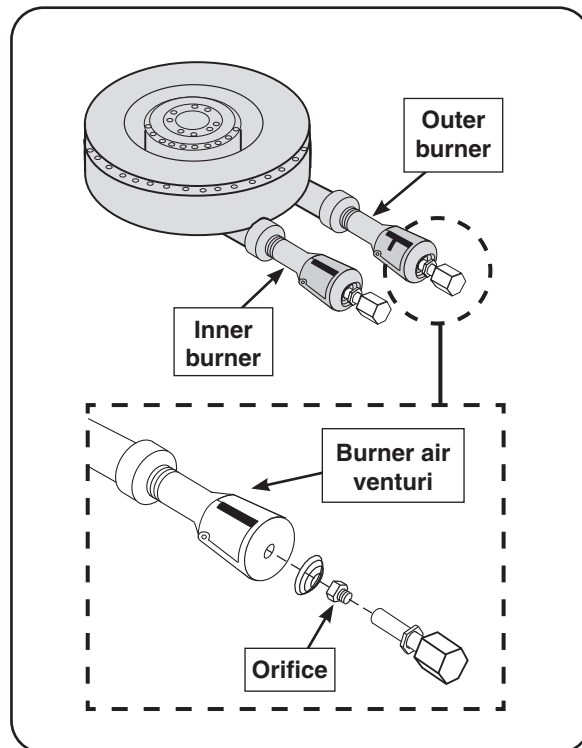

Fig. 34-1 Burner air shutter / orifice orientation
3. The orifice size is stamped on each orifice face (see Fig. 34-1).